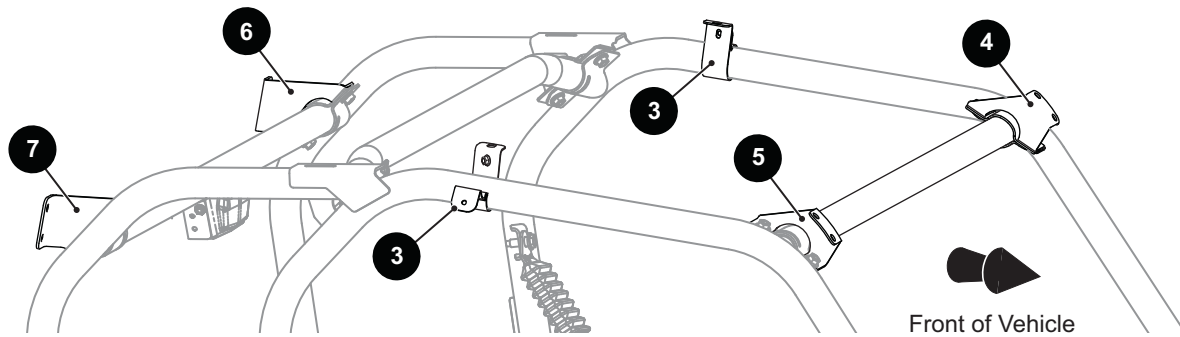
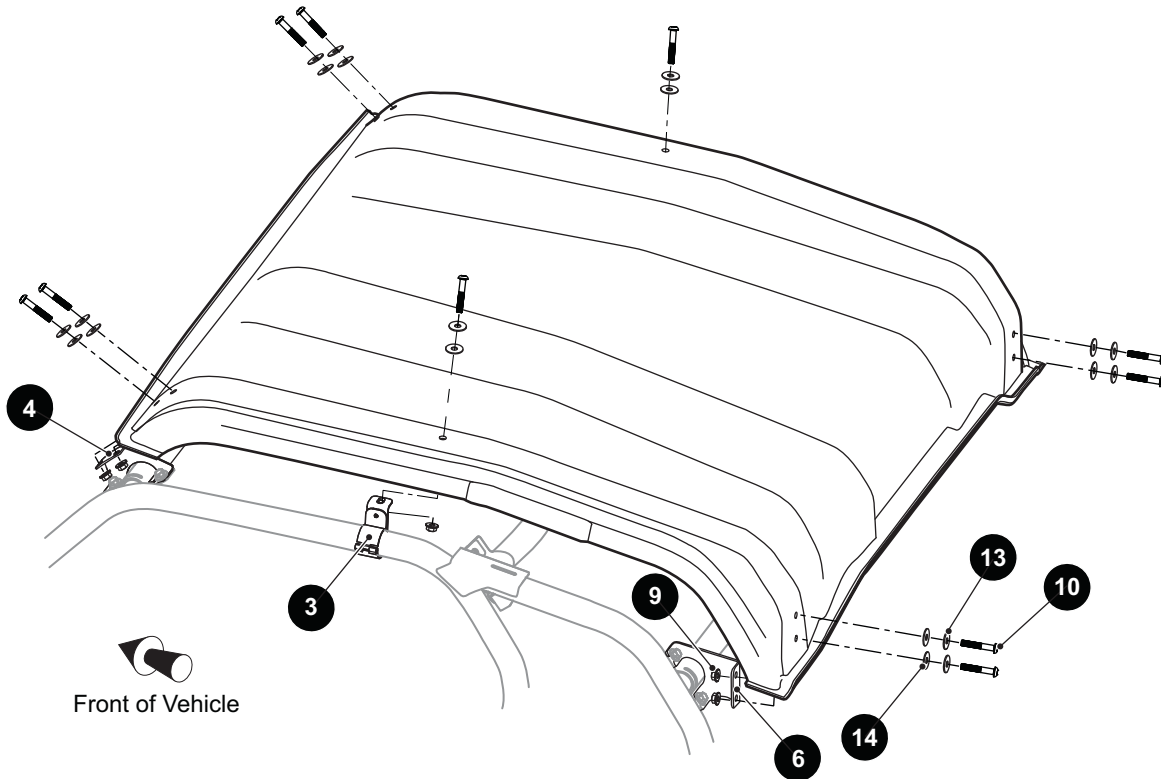

Fig. 2 Canopy Mounting Clamps
Fig. 4 Canopy
1. Place canopy clamps (3), with the hinged side facing out, onto each side ROPS tube (Ref. Fig. 2).
1. Align the mounting holes on the canopy with the holes in the mounting brackets (4-7) and canopy clamps (3) (Ref. Fig. 2) (Ref. Fig. 4).
2. Slide the canopy clamps (3) along the ROPS tube so they are aligned with the canopy mounting holes.
3. When the canopy clamps are aligned with the canopy mounting holes, tighten the canopy clamp bolts (11) to a torque mentioned in below table.
4. Secure the canopy to the clamps and brackets with Torx bolts (10), washer (13), rubber washer (14) and lock nuts (9).